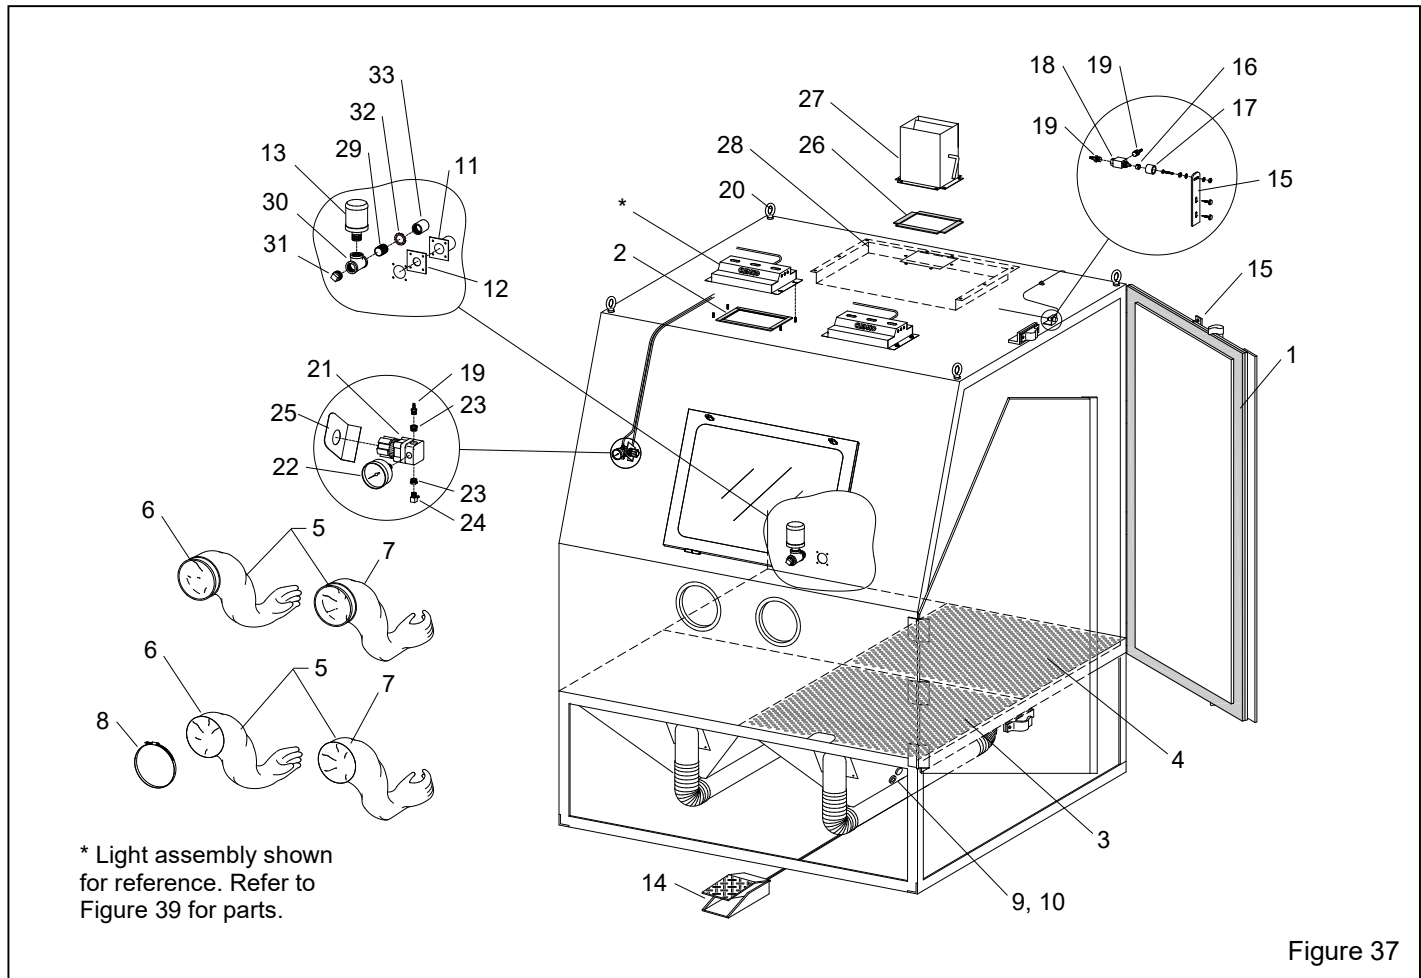

Figure 37
9.2 Cabinet Replacement Parts – Figure 37